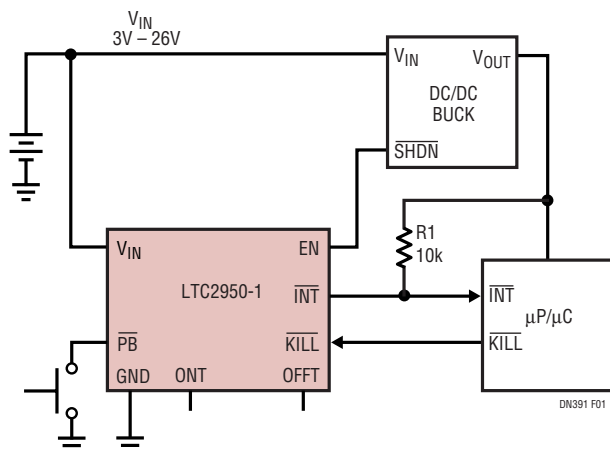
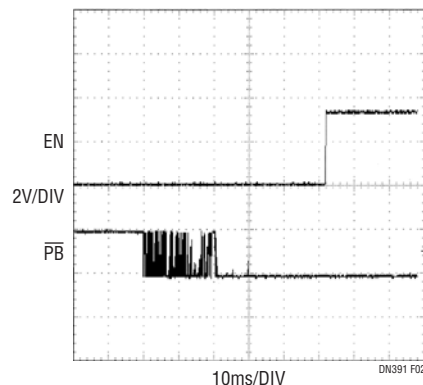

Figure 1. Typical Application with One External Component
Figure 2. Turn On De-Bounce Timing
The circuit in Figure 1 provides manual control of the shut-down pin of a DC/DC converter. To turn on the converter, the LTC2950 first de-bounces the pushbutton input and then releases the low leakage enable (EN) output. The turn on de-bounce time defaults to 32ms and is extendable by placing an optional capacitor on the ONT pin. This allows the handheld designer to adjust the length of time the user must hold down the pushbutton before turning on power to the device. The timing of Figure 2 illustrates performance with a noisy $\overline{\text{PB}}$ pin.